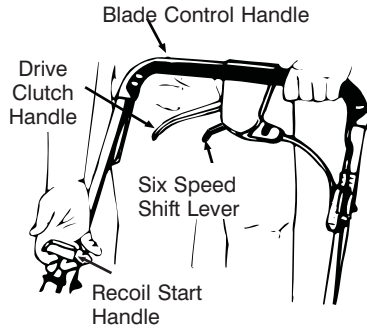

Figure 9-RECOIL START MODEL SHOWN
- Standing behind the unit, depress the blade control handle and hold it against the upper handle as shown in Figure 9.
- Grasp the recoil starter handle as shown and pull slowly until resistance is felt, then pull rapidly to start engine and avoid kickback. Return it slowly to the rope guide bolt. See Figure 9.
- To engage the drive, squeeze the drive clutch control handle (see Figure 9) towards the upper handle. Release the drive clutch control to slow down when negotiating an obstacle, making a turn, or stopping.
- The six speed shift lever is located on the drive clutch control housing on the upper handle. See Figure 9. This lever is used to select the operating speed of the mower. Release the drive clutch control when changing speeds.